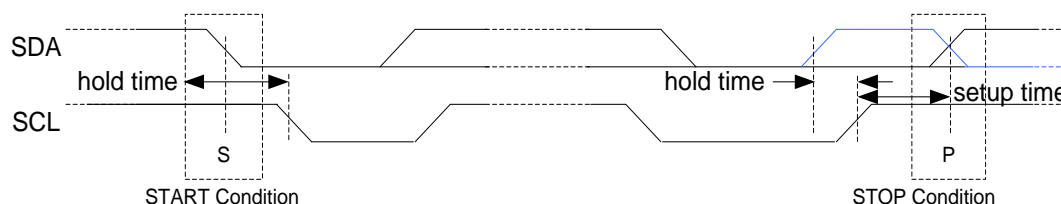

Figure 31. START and STOP (or repeated START) condition
The idle I2C bus state occurs when both SCL and SDA are not being driven by any master and are therefore in a logic HI state due to the pull up resistors. Every transaction begins with a START (S) signal and ends with a STOP (P) signal. A START condition is defined by a high to low transition on the SDA while SCL is high. A STOP condition is defined by a low to high transition on the SDA while SCL is high. START and STOP conditions are always generated by the master. This slave module also supports repeated START (Sr) condition which is same as START condition instead of STOP condition (Blue color line shows repeated START in Figure 31).